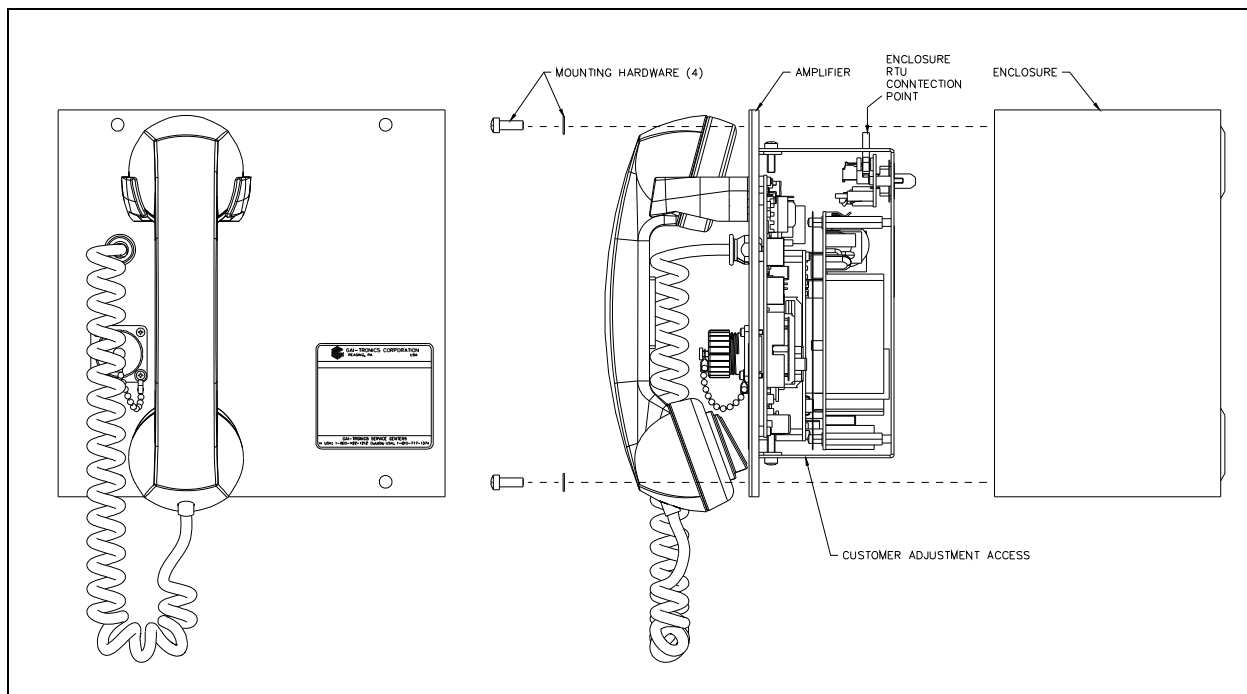

Figure 2. Installation Detail
The ICS AC-powered Page/Party® Plug-in Amplifier plugs directly into the enclosure. Figure 2 shows installation details. Please refer to the applicable amplifier section when you are installing and adjusting the amplifier. Use extra caution not to damage the protruding latch wings of connector P6 located on the top right edge of the amplifier during installation and removal.
2. Attach the amplifier to the enclosure with the hardware provided. See Figure 2.